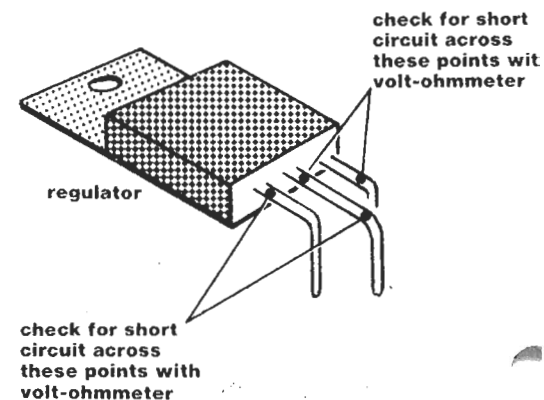

Figure 10.
5. Before proceeding, check your work so far by testing the board for any shorts between supply lines and ground. Referring to Figure 10, use a voltmeter to test for a shorted condition at the test points indicated on the regulator. Perform this test at each regulator. If you find a short circuit at any of these points, carefully check over your board for the cause of the short. If all readings are satisfactory, proceed with construction of the board.